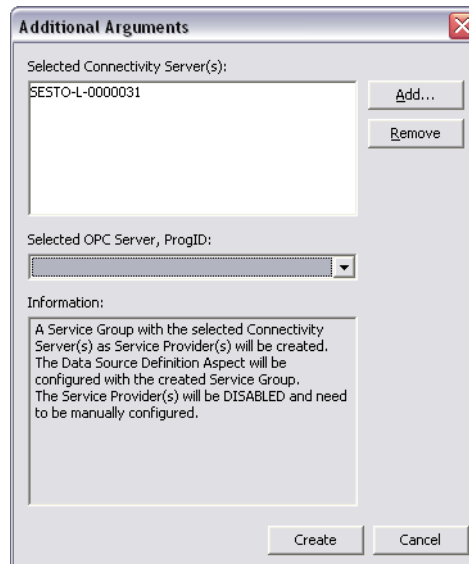

Figure 260. Connection of OPC Server in non-system node.
2. Follow the wizard to select Connectivity Server. See Figure 260. A Service Group with the name SG_Generic OPC Net will be created and a Data Source Definition Aspect will be configured with this Service Group.